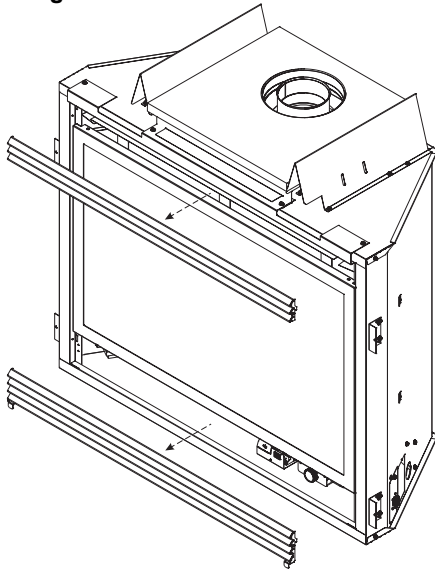

Figure 91
1. Remove top and bottom louvers by lifting up and pulling them out. **See Figure 91.**